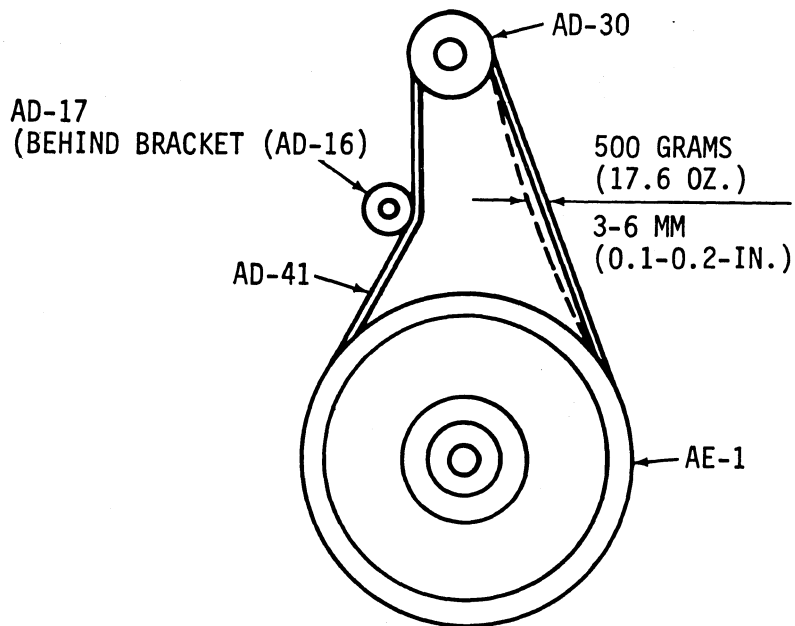

Figure 5-4. ADJUSTMENT OF TIMING BELT (AD-41)
**C. TIMING BELT (AD-41) (REFER TO FIGURE 5-4)**
2. Adjust position of tensioner (AD-17) so that movement of belt (AD-41) (side away from tensioner) when hand depressed with a pressure of 500 grams (17.6 oz.) travels inward to a maximum distance of 3-6 mm (0.1-0.2 in.). (See Figure 5-4)